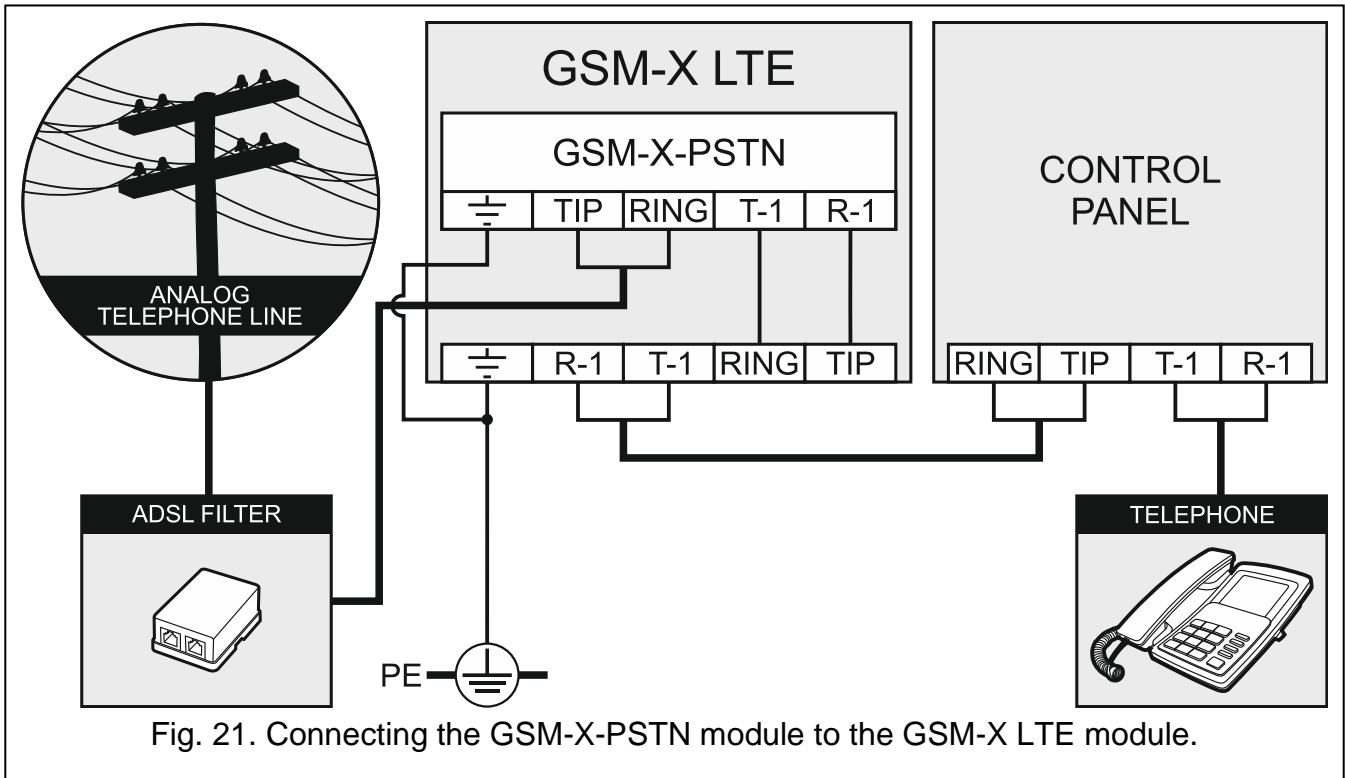

Fig. 21. Connecting the GSM-X-PSTN module to the GSM-X LTE module.
4. Connect terminals T-1 and R-1 of the module to terminals TIP and RING of the GSM-X LTE module (Fig. 21).
5. Connect the incoming telephone line to terminals TIP and RING. If the ADSL service is used on the premises, the module should be connected after the ADSL filter (Fig. 21).
6. Connect terminals T-1 and R-1 of the GSM-X LTE module to terminals TIP and RING of the control panel (Fig. 21). Any telephone located on the premises can be connected to terminals T-1 and R-1 of the control panel.
7. Connect terminals \perp of the GSM-X LTE and GSM-X-PSTN modules to the protective earth conductor (PE) of the 230 VAC mains (Fig. 21). To make the connection, use a conductor with $\geq 0.75 \text{ mm}^2$ cross-section. Never connect the \perp terminal to the neutral conductor (N).